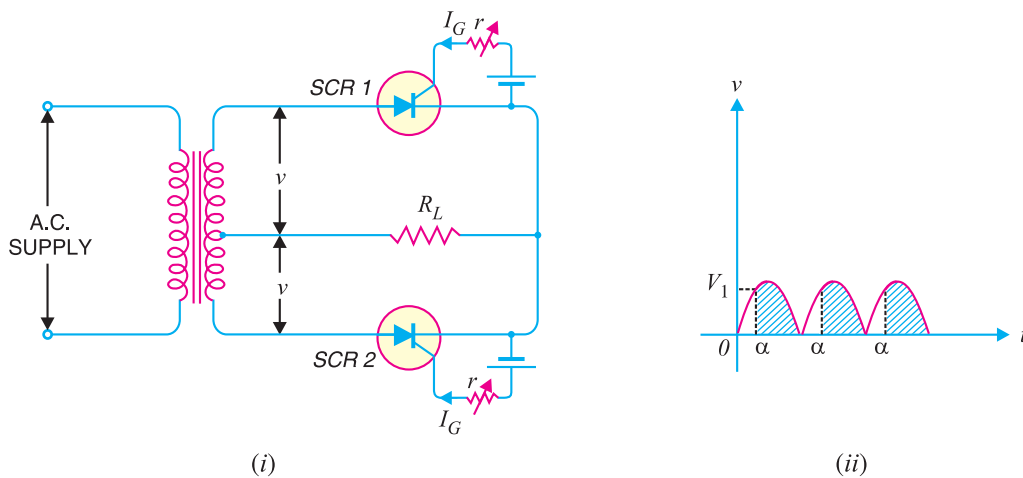

Fig. 20.15
Fig. 20.15 (i) shows the circuit of SCR full-wave rectifier. It is exactly like an ordinary centre-tap circuit except that the two diodes have been replaced by two SCRs. The gates of both SCRs get their
**Operation.** The angle of conduction can be changed by adjusting the gate currents. Suppose the gate currents are so adjusted that SCRs conduct as the secondary voltage (across half winding) becomes  $V_1$ . During the positive half-cycle of a.c. across secondary, the upper end of secondary is positive and the lower end negative. This will cause SCR1 to conduct. However, the conduction will start only when the voltage across the upper half of secondary becomes  $V_1$  as shown in Fig. 20.15 (ii). In this way, only shaded portion of positive half-cycle will pass through the load.
**Mathematical treatment.** Referring to Fig. 20.15 (i), let  $v = V_m \sin \theta$  be the alternating voltage that appears between centre tap and either end of secondary. Let  $\alpha$  be the firing angle.